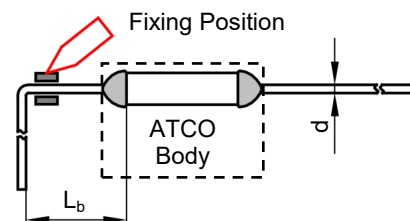

FIGURE U-2
2. When bending leads, please use pincher or similar tools to fix the product as shown in Fig.U-2, to avoid damaging the product.